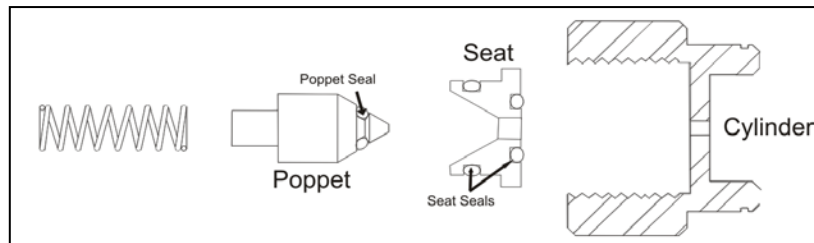

Figure 4
- a) Replace the seal on the poppet (see Figure 4).